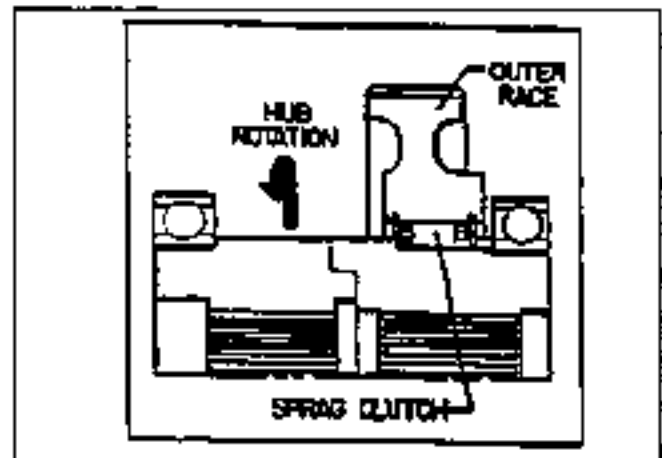

Figure 32
10. Remove the inner bearing from the hub assembly with a wheel puller that will not push against the outer race. Loading against the outer race can damage the sprag clutch. Remove the spacer and slide the outer race from the hub. Inspect the sprag clutch for flat surfaces. See Figure 32.
11. Clean the two hub bearings with solvent and dry with compressed air. See Figure 32.
13. Reassemble the hub and outer race and install over the drive shaft and into the drive mount. See Figure 32.
If the sprag clutch is not installed correctly, the winch will not function. Install the sprag clutch cages toward the inside of the winch when assembled. The hub must rotate in the direction as shown with respect to the outer race. See Figure 32.